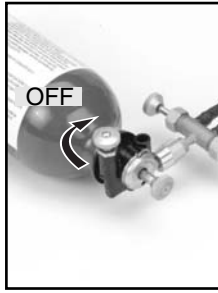

FIG. 22
- Make sure FUEL VALVE is fully "OFF" (Fig. 22).